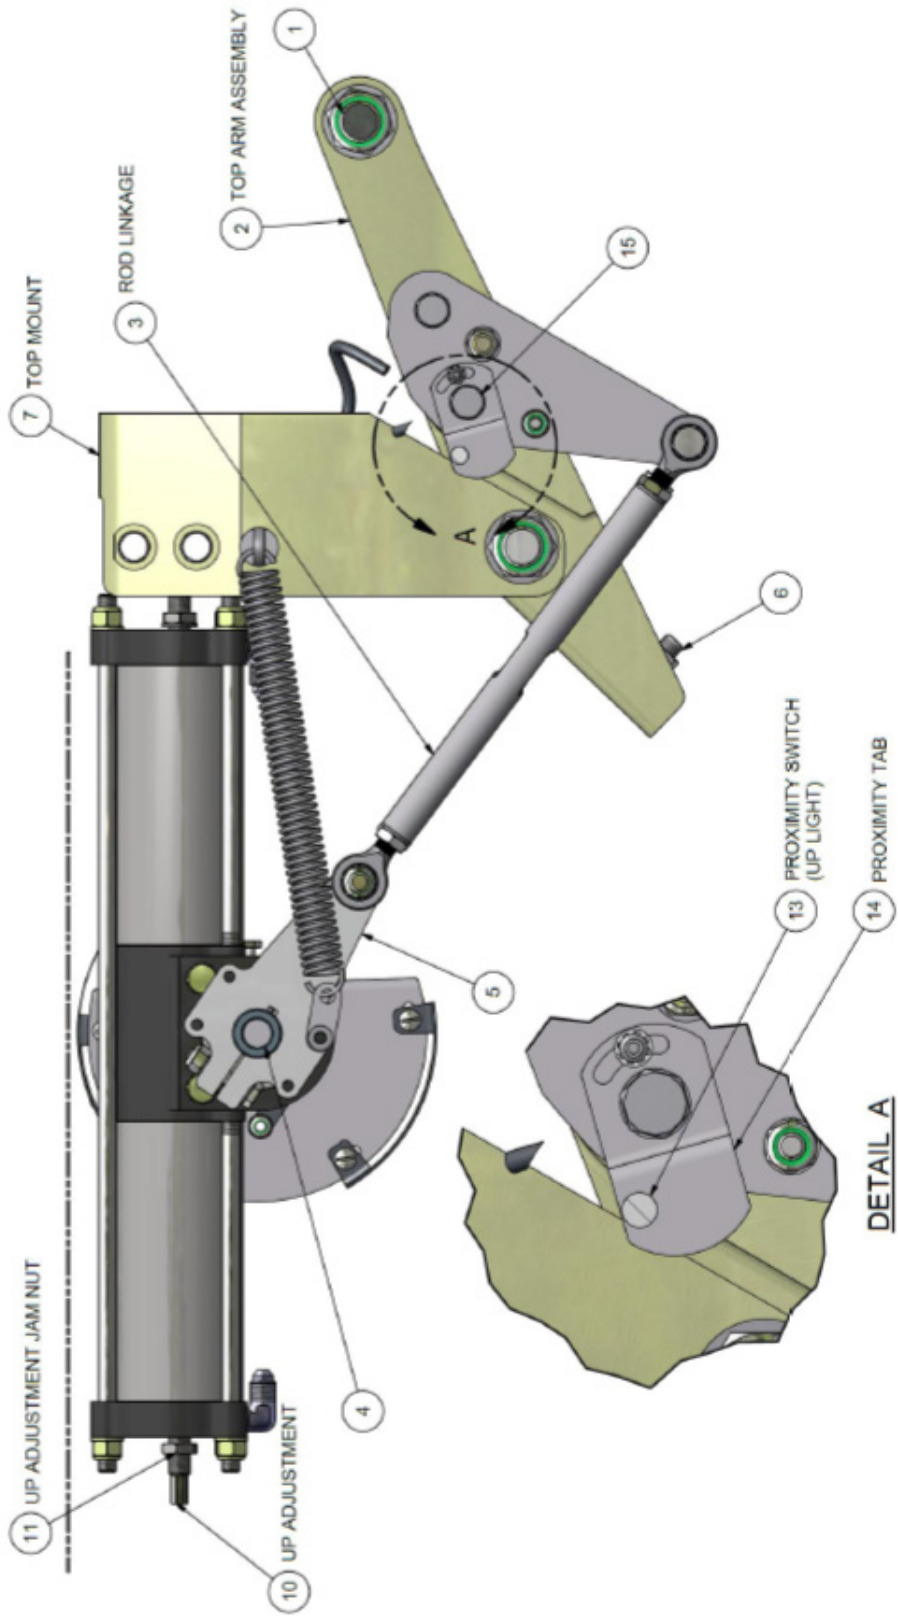

FIGURE 4-5: MAIN GEAR ADJ. UP
15. Repeat steps 10 - 14 for setting the UP position setscrew. (See figure 4-5)
10. Rotate the sensor plate so that the sensor is near the edge of the plate with the gear in the up position. Reference Figure 4-5 inset.